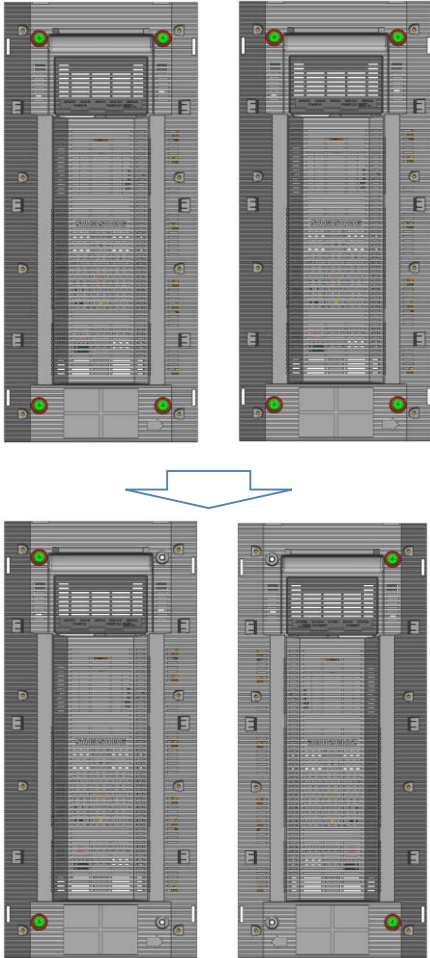

Fig 21. Removal of BOLT ETC
- For IER-F L-type installation, use only two among four BOLT ETCs and remove the BOLT-ETCs not in use. (Fig. 21)